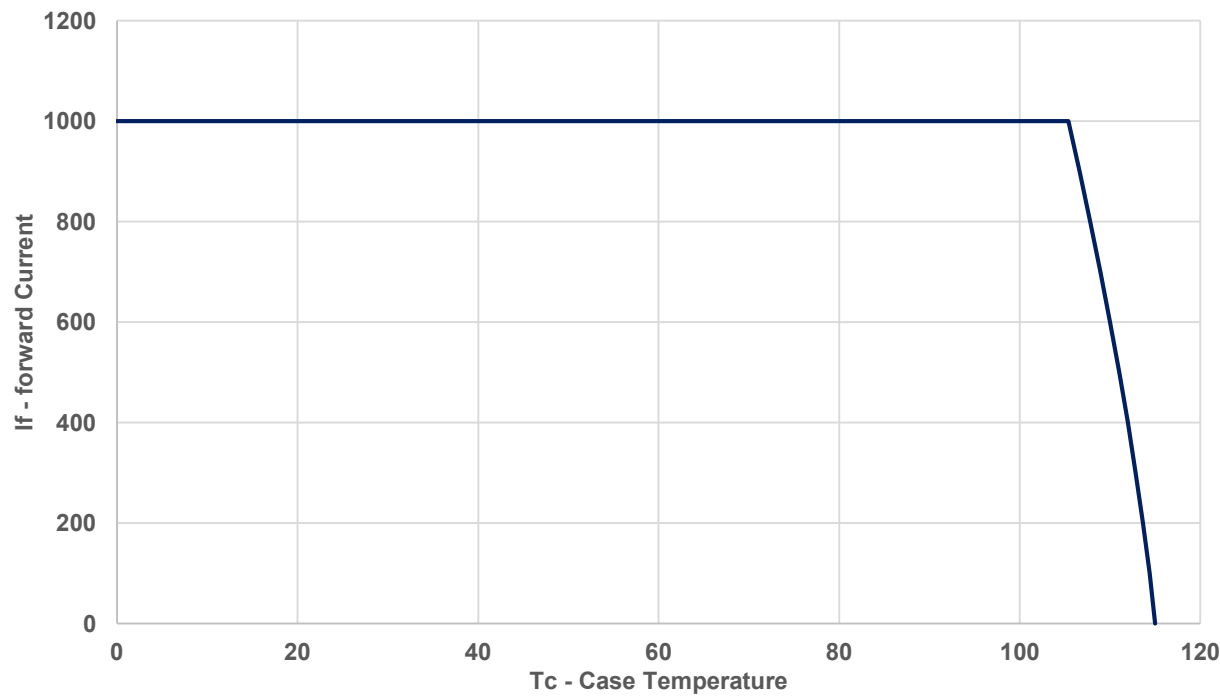

Figure 11: Maximum forward current vs. case temperature based on T_{J(MAX)} = 115°C
- Maximum DC forward current is determined by thermal resistance and case temperature. Follow Figure 11 for current derating.
Notes for Figure 11: